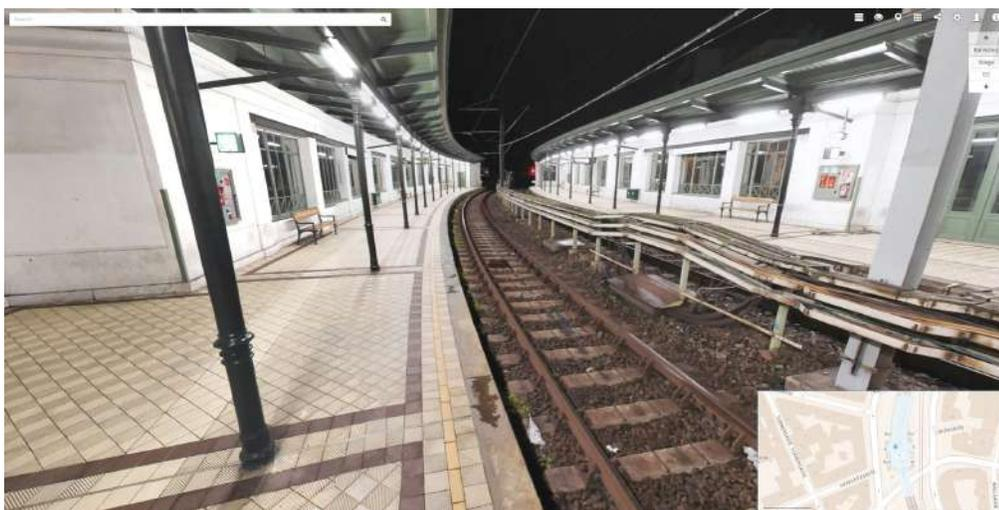

Figure 3: Panoramic image of the Gumpendorfer Straße Metro Station in Vienna, Austria, captured by the NavVis IMMS and displayed in NavVis IndoorViewer.
**Figure 3:** A rectangular enclosure buried underground becomes visible when using multispectral data and vegetation indices sensitive to chlorophyll content (left), revealing features that were not directly visible using conventional geophysical survey tools (right).